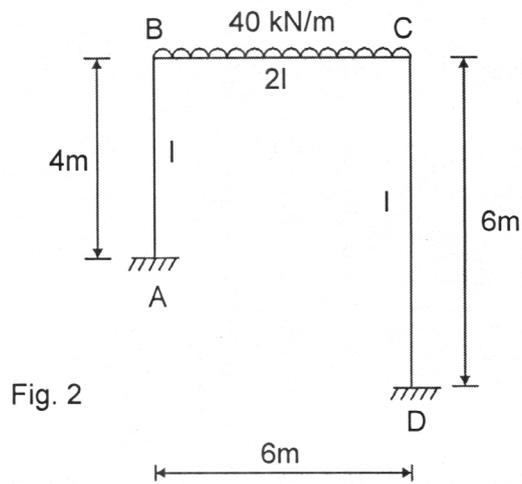

Fig. 2
2. Analyse the frame shown in fig. 2 by slope deflection method. Draw bending moment diagram. 20